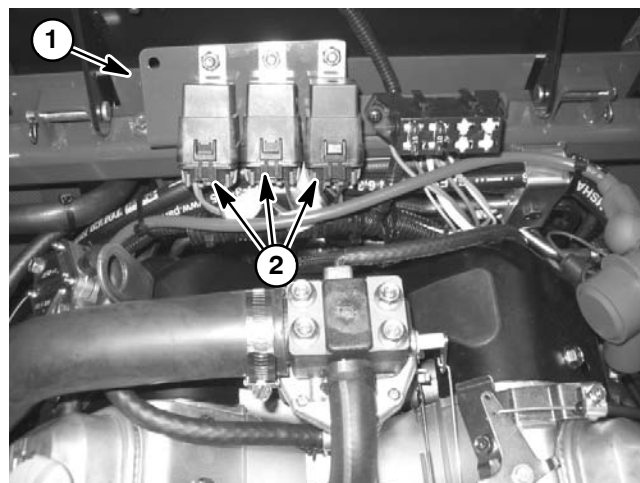

Figure 13
Three (3) relays are used on the machine: start relay, charge relay and interlock relay. The relays are attached to a bracket under the seat (Fig. 13). The relays are identical and are identified by a tag on the wire harness relay connector.